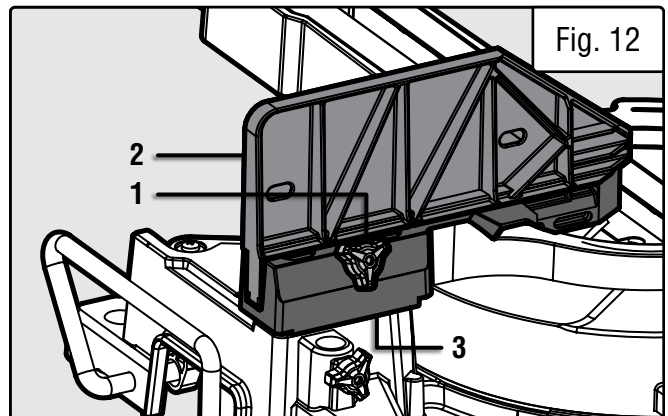

Fig. 12
1. Loosen the fence adjustment knob (Fig. 12 - 1).
2. Adjust the fence as desired. The top portion of the left fence (Fig. 12 - 2) can slide to the left and right, while the bottom portion of the fence (Fig. 12 - 3) stays stationary.